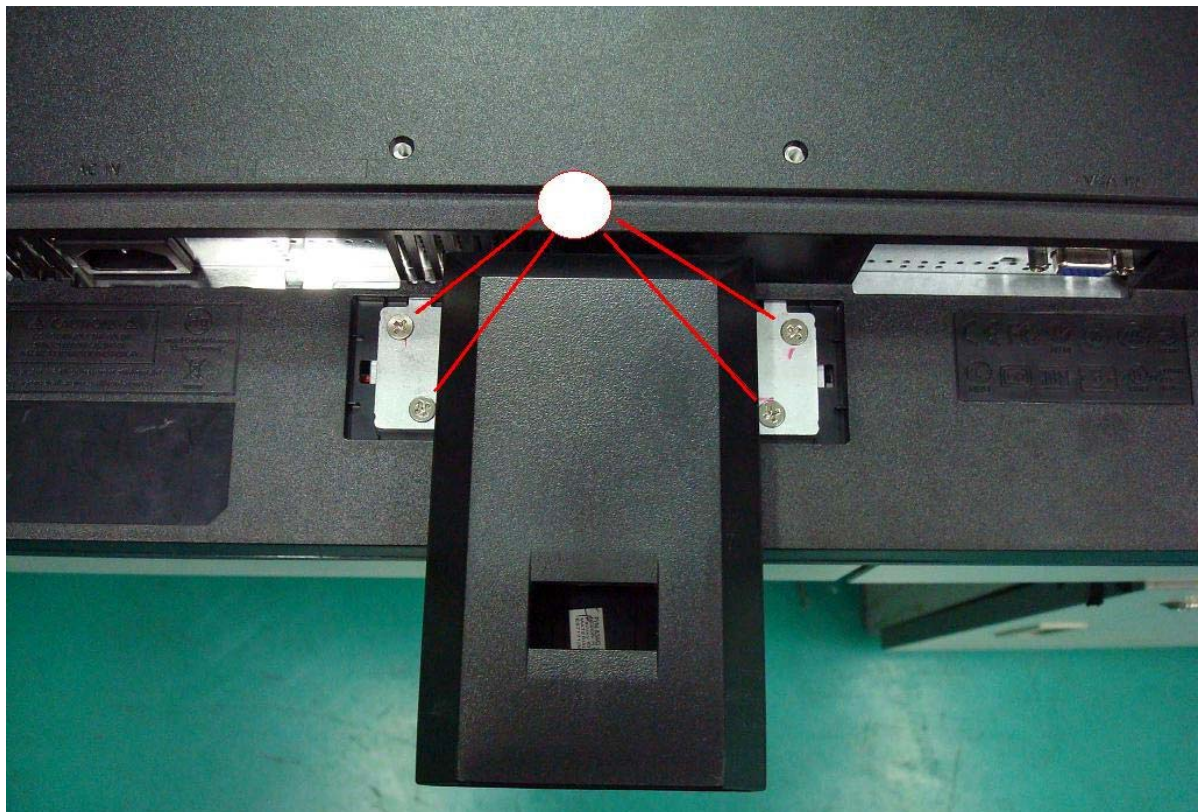

Fig 2
2. Remove the screws as following indicate to release base stand. (Fig 2)